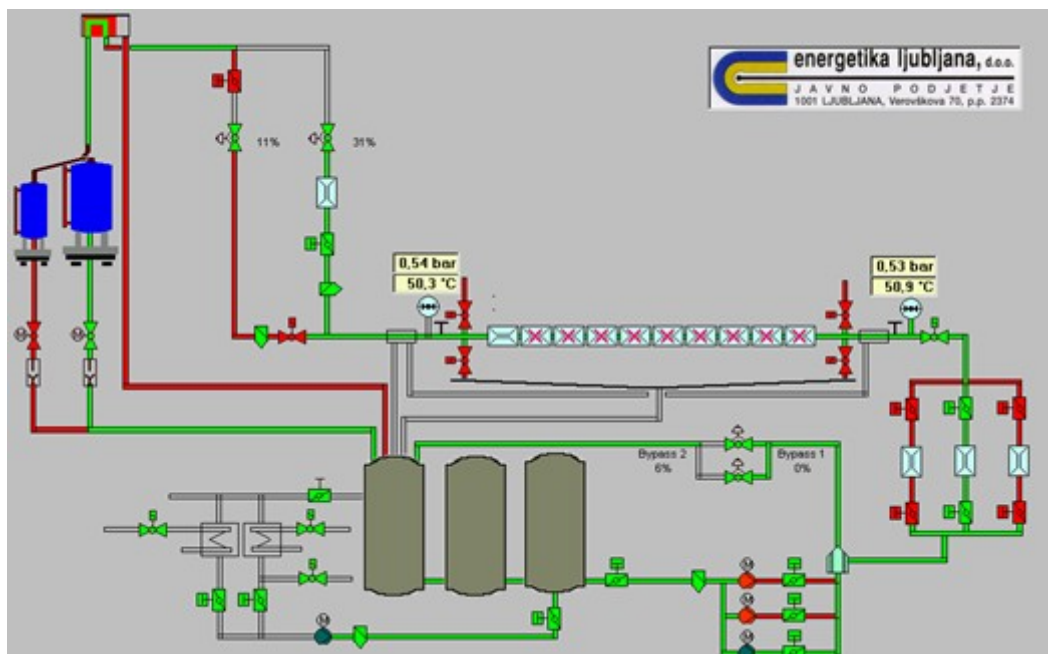

Fig. 1: Basic circuit diagram of the test facility for flow sensors and water meters
- **Volukal** in fig. 1. for testing and calibration of flow sensors of heat meters and cold and hot water meters.
The testing rig is shown in Fig 1. and consists of three storage tanks with a total volume of ca. 7 m³ for the warm water mode up to 75 °C.